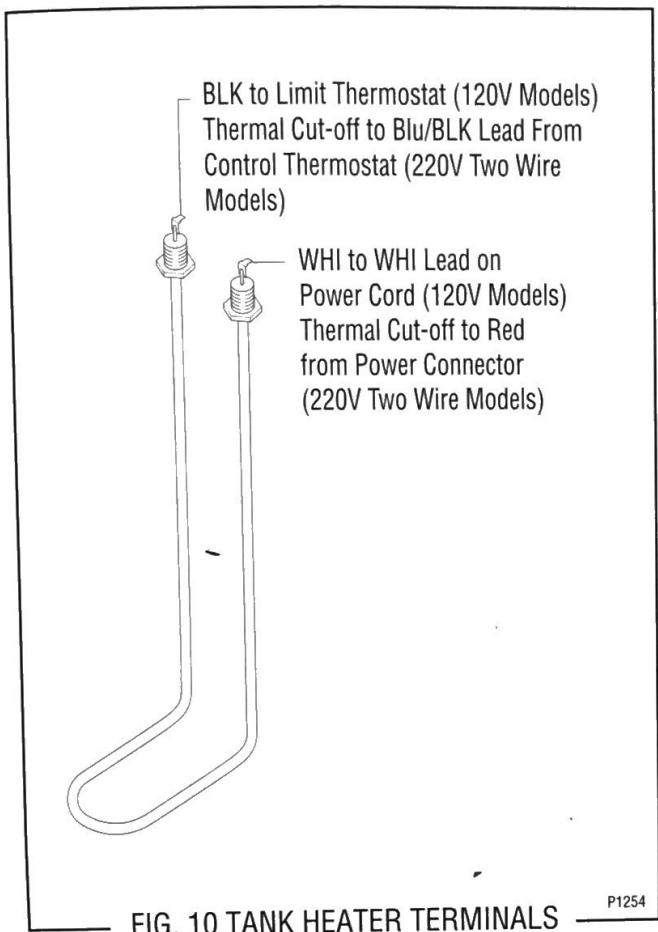

FIG. 10 TANK HEATER TERMINALS
14. Refer to Fig. 10 when reconnecting the tank heater wires.